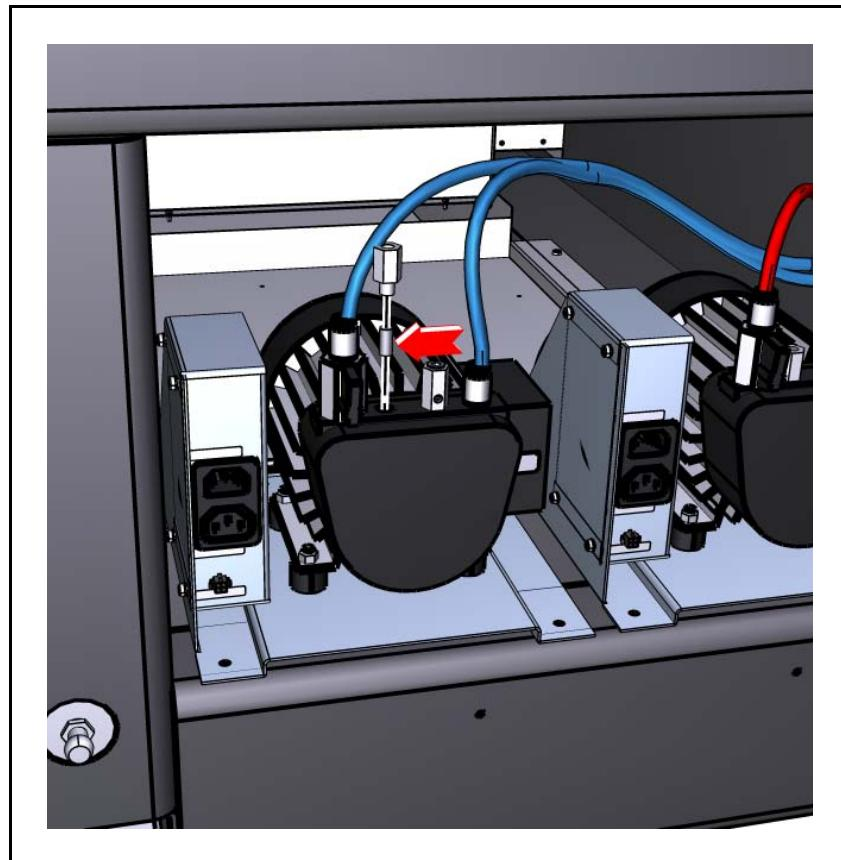

Figure 16-29. Replace vacuum filters.
2. Use a spanner to loosen and remove the bolt holding the filter (see Figure 16-29) in the vacuum pump assembly.